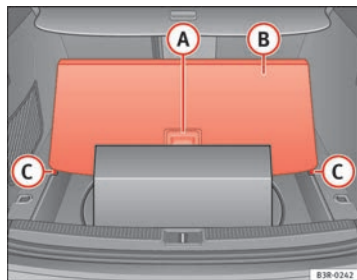

Fig. 124 Floor panel raised
- Take hold of handle **A** ⇒ fig. 124, lift the floor panel **B** and line up the bottom corners of the floor panel with the recesses **C**.
- Take hold of the handle **A** ⇒ fig. 124 and fold out the floor panel as far as the rear backrest.
Small items can also be stored **under** floor panel **B** ⇒ fig. 124.